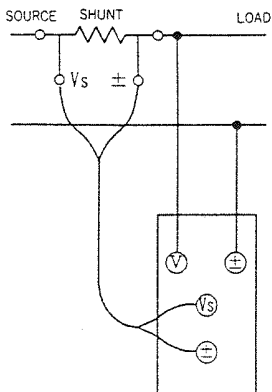

Fig. 2
- (1) As shown in Fig. 2, with the voltage measurement terminals connected to the load side. In this case, the power measurement includes a loss depending on the input resistance of the voltage measurement circuit.
Loss in Fig. 2 connection (VA): $(\text{voltage})^2 \div (\text{voltage input resistance: } 1 \text{ M}\Omega)$
Fig. 2 loss: $(30 \text{ V})^2 \div 1 \text{ M}\Omega = 0.0009 \text{ VA}$
Fig. 2 gives the best accuracy connections.
Fig. 2 loss: $(600 \text{ V})^2 \div 1 \text{ M}\Omega = 0.36 \text{ VA}$